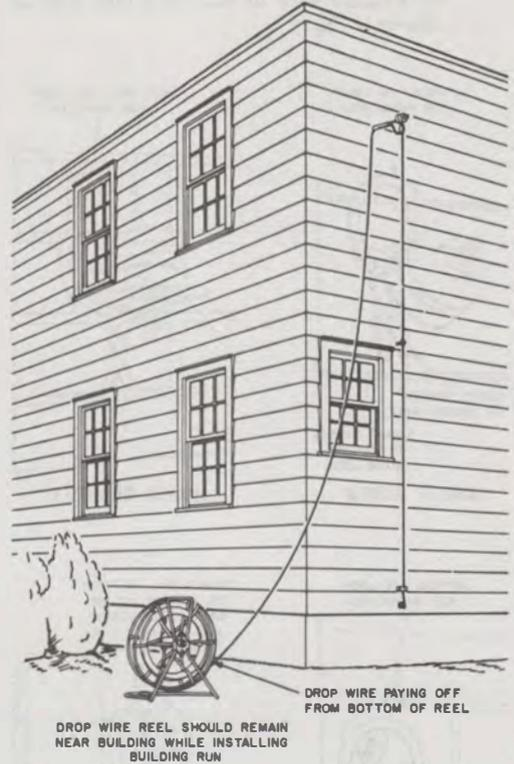

Fig. 3—Drop Wire Attached to Building
- Install the building attachment and secure the drop wire to this support. Complete building run in a standard manner. Keep drop wire reel near the building to avoid accidents or damage to wire (Fig. 3).